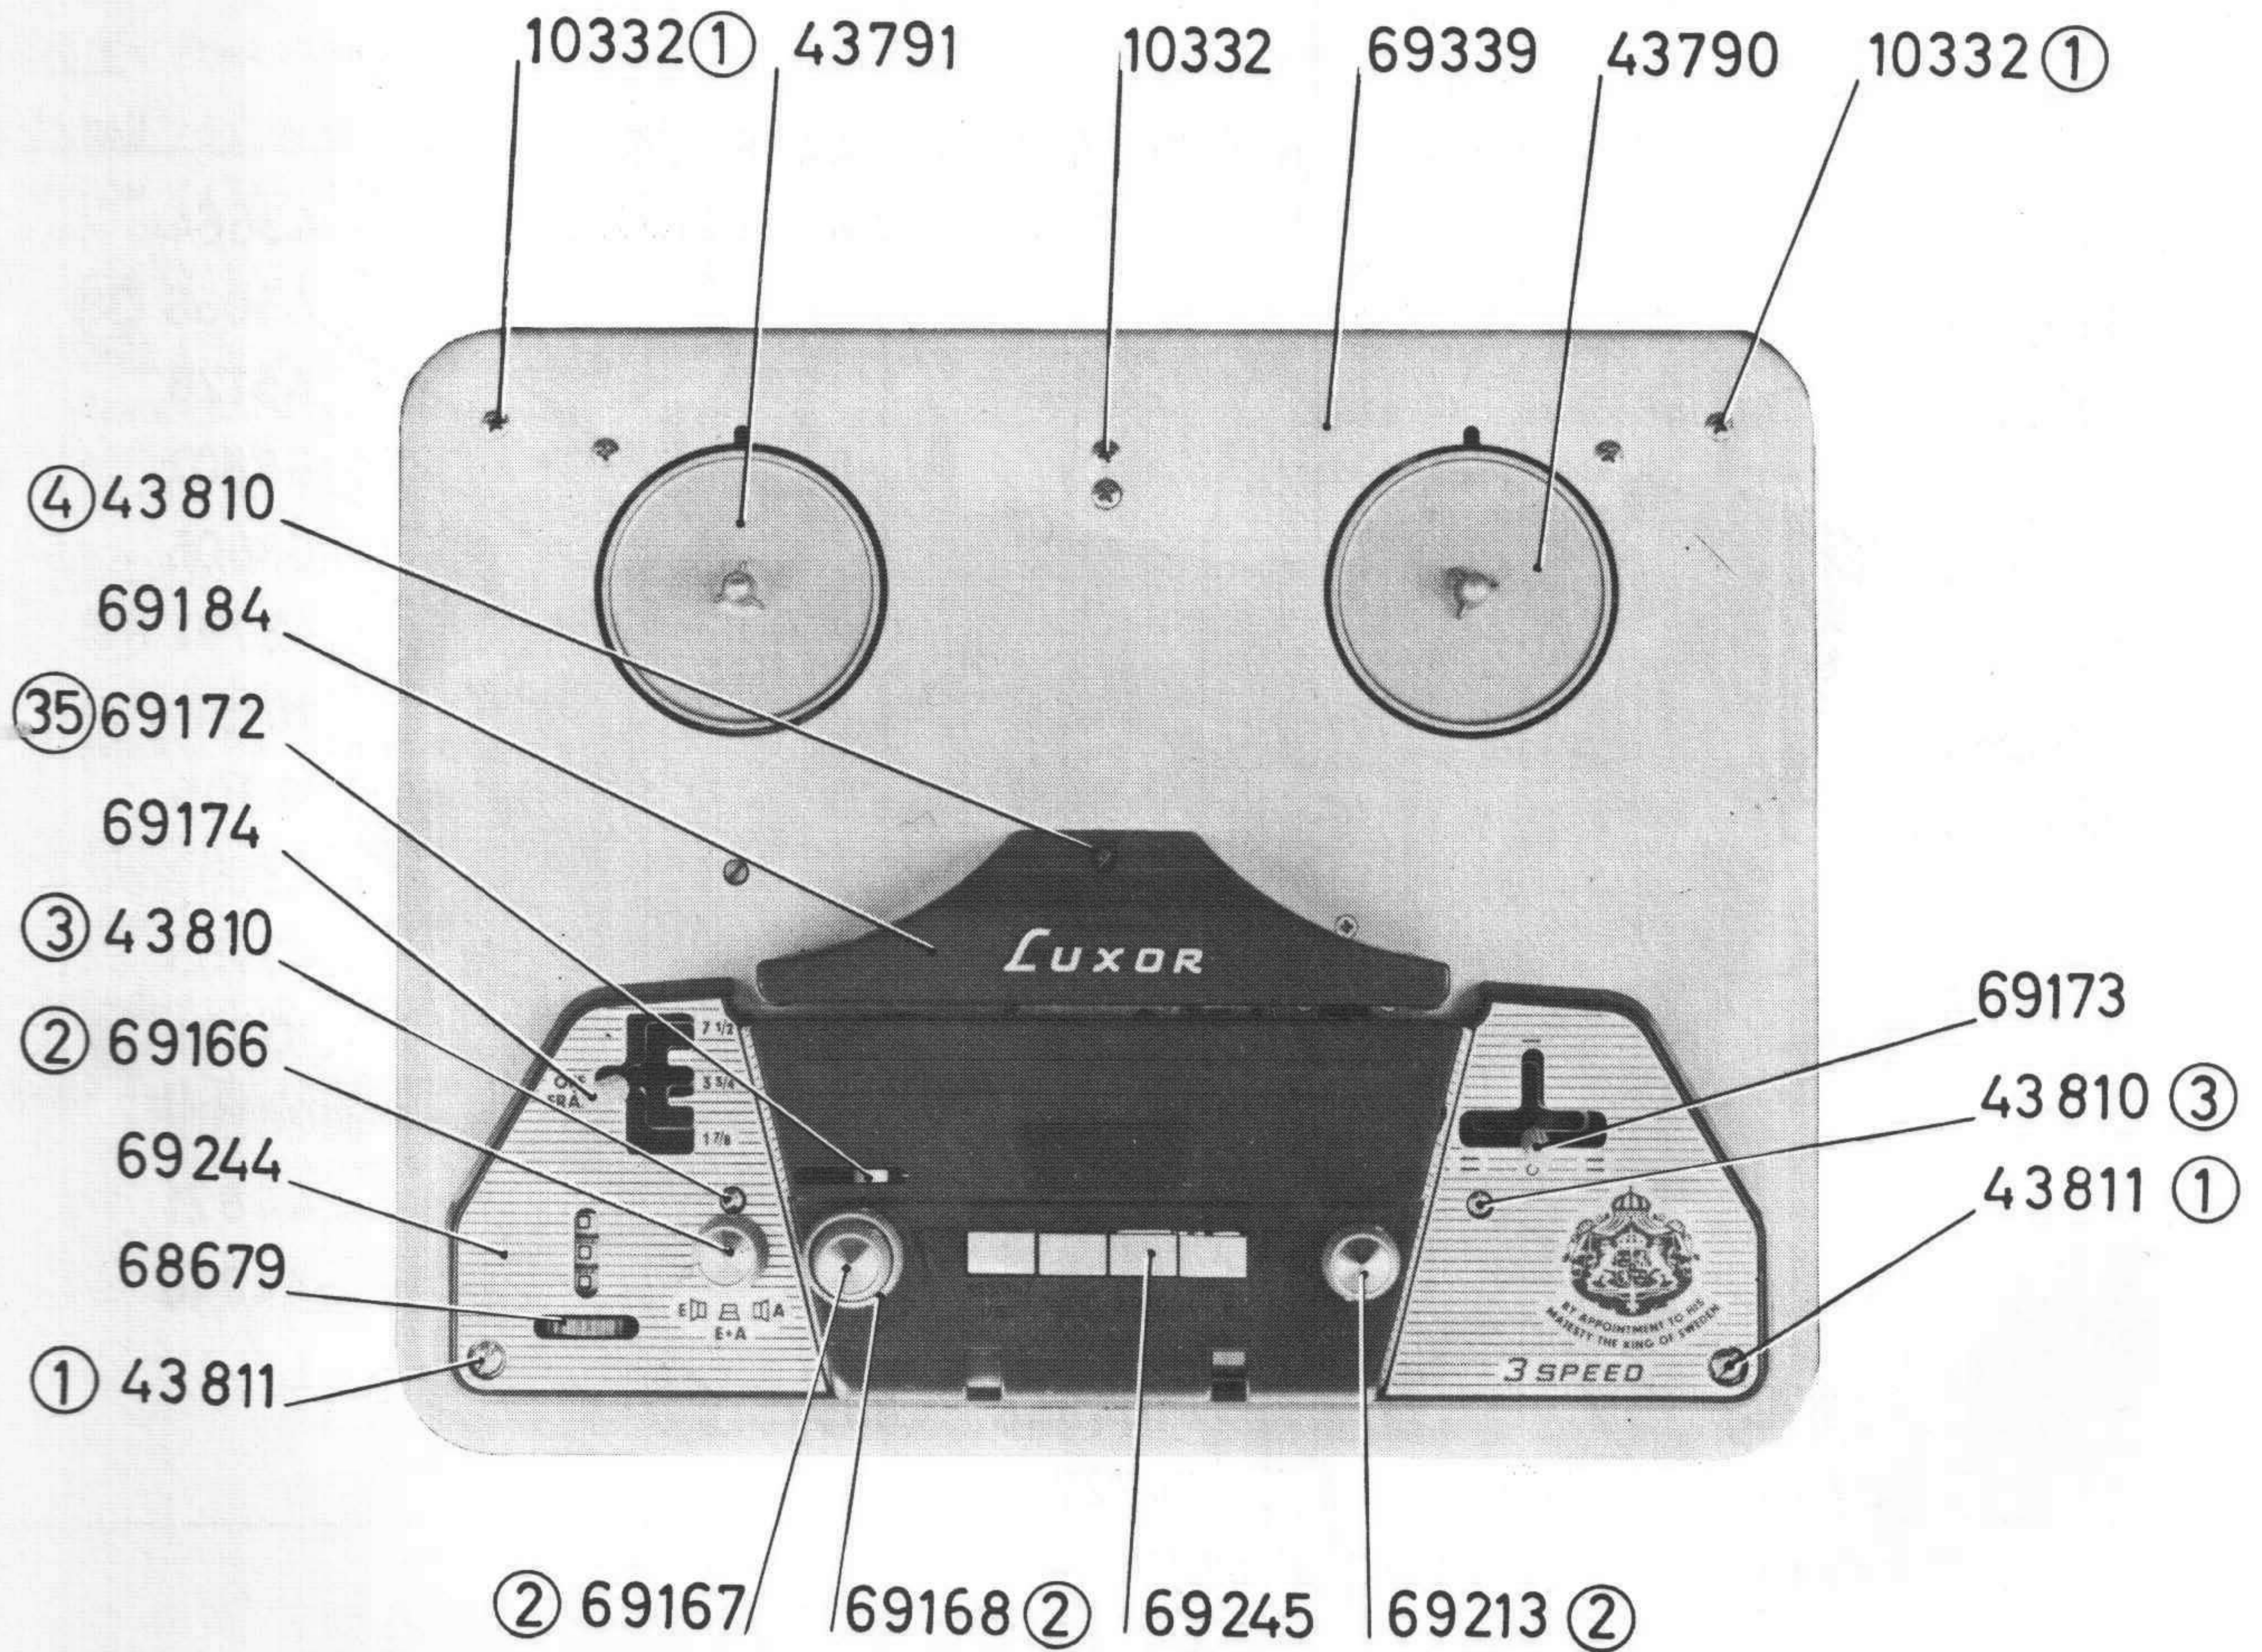

Fig.1
1. BORTTAG DE FYRA MANÖVERRATTARNA (2). SE FIG. 1.
2. BORTTAG DEN FRÄMRE MASKEN GENOM ATT LOSSA TVÅ SKRUVAR (3), SE FIG. 1.
3. BORTTAG DEN BAKRE MASKEN GENOM ATT LOSSA EN SKRUV (4). SE FIG. 1.